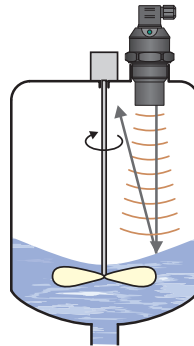

Fig. 12: Strongly stirred surface
- False surface reflections of the ultrasonic signal and unreliable operation of the device might result from the mixer's **rotating blades** that ripple the surface level (Fig. 12).